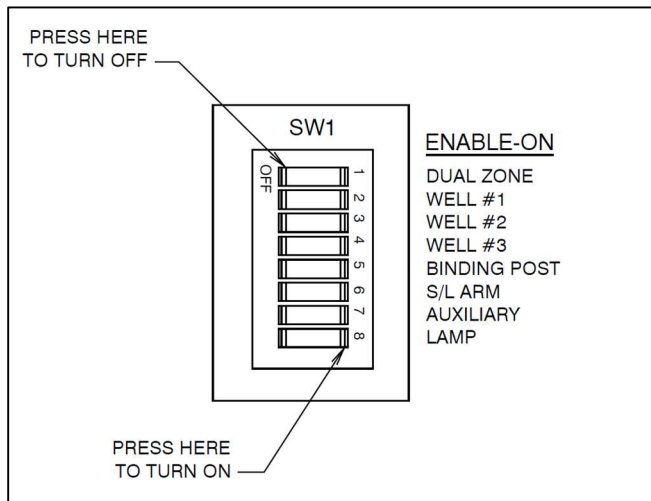

FIGURE 19
- Review Figure 19. If you want one of the listed switches to automatically control room lights during an exam, turn the corresponding switch On. Otherwise, turn the switch Off. The Factory Default setting is Off.